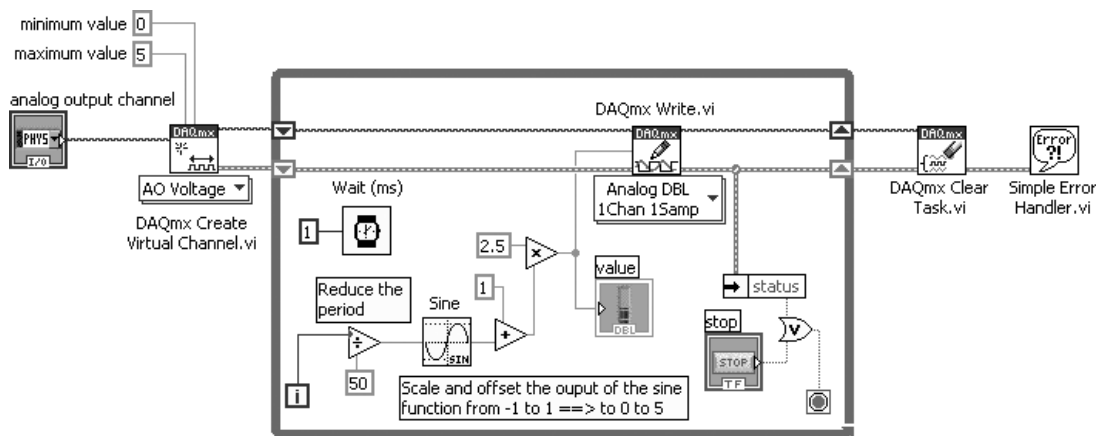

Figure 11.53
2. Build the block diagram shown in Figure 11.53. All DAQmx VIs used in this activity may be found on the **Measurement I/O>>DAQmx Data Acquisition** palette.